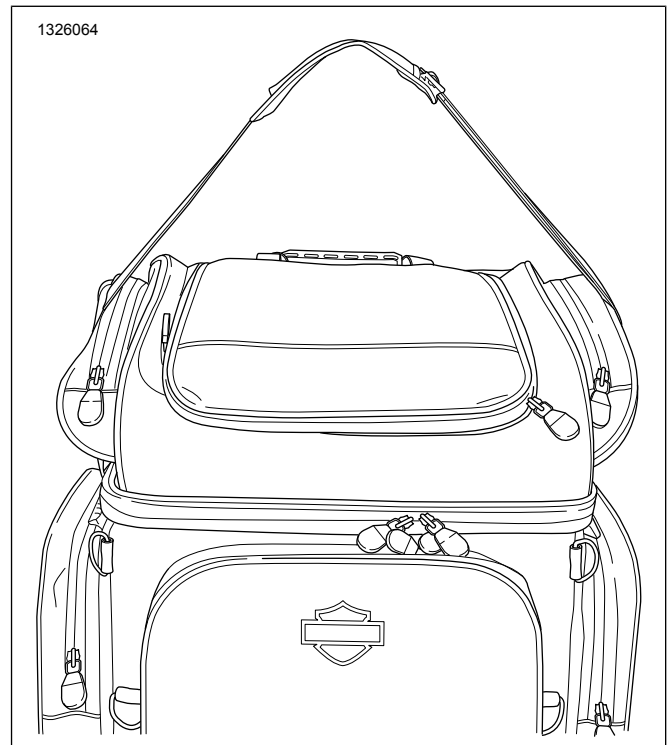

Figure 3. Shoulder Strap
1. See Figure 3. Hook ends of strap to D-rings on each side of bag.